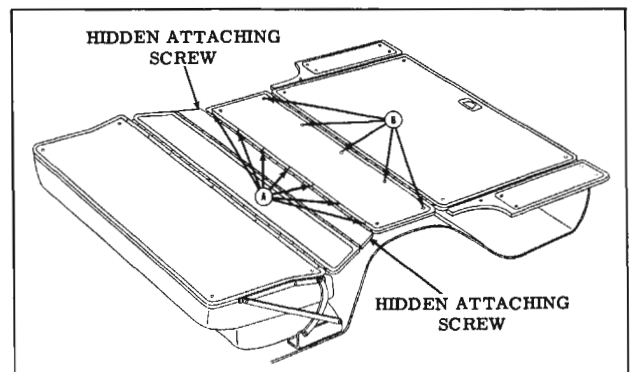

Fig. 16-324 Compartment Floor Panel Assembly
2. Remove rear floor filler panel to rear seat pan attaching screws as shown at "A" in Fig. 16-324.
NOTE: Attaching screws are located at each end of panel. (See HIDDEN ATTACHING SCREWS, Fig. 16-324)
- Remove floor panel to spare tire cover hinge support panel attaching screws, shown at "B", Fig. 16-324, and remove compartment floor panel assembly from body.